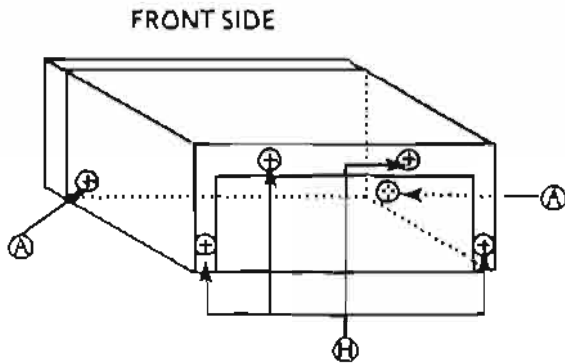

Fig. 1
### (2) Life of the laser diode (Fig.1)
(Fig.1)